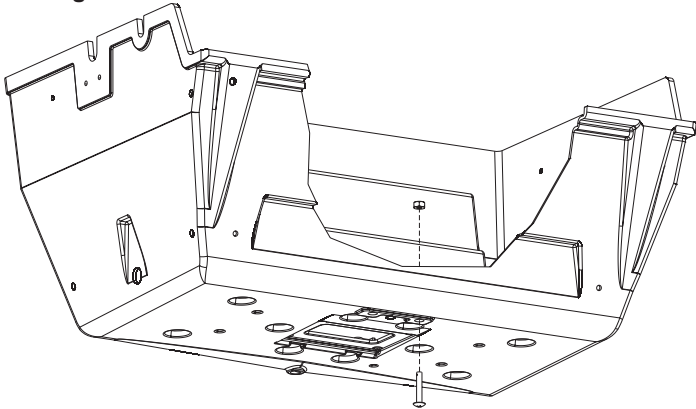

Figure 13
- Insert the 1/4-20 x 1 1/2 Phillips Truss Head Screw from the underside of the grill and secure with the 1/4-20 Hex Nut. See Figure 13.